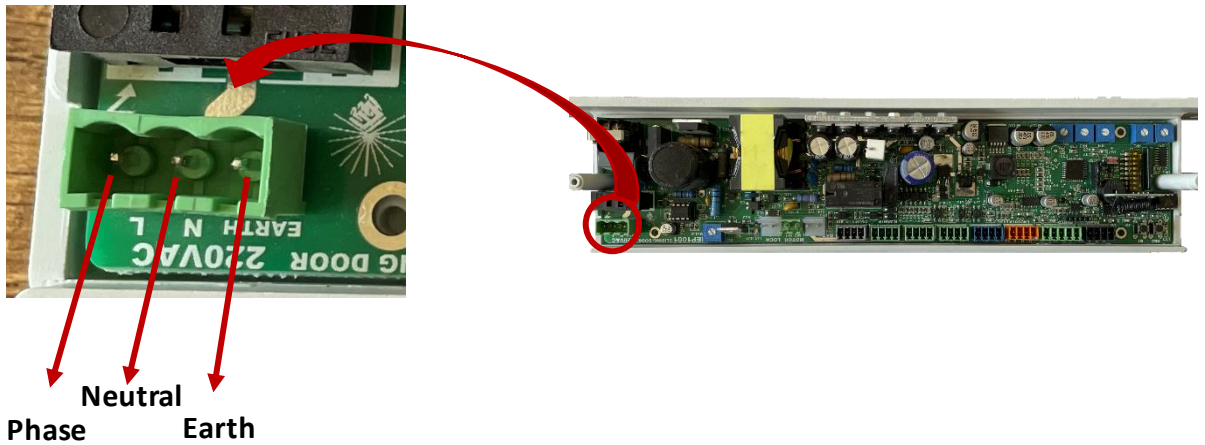

Figure 21: The position and close-up view of the power supply input on the board, as well as the input types, are shown in Figure 19.
- 20) AC220 Power Input:** The socket where the AC220 power supply input is connected on the board. The input types are shown in Figure 21.